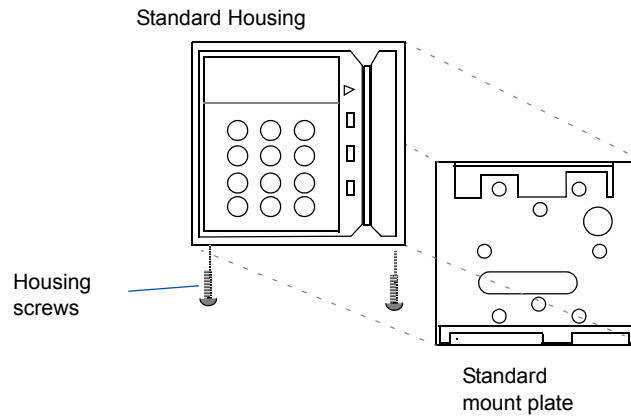

FIGURE 1. Standard Housing and Mount Plate
**Installing the Mount Plate** Figure 1 shows RM-iC standard housing and mount plates. All RM-iC series readers conform to the same housing and mount plate dimensions.